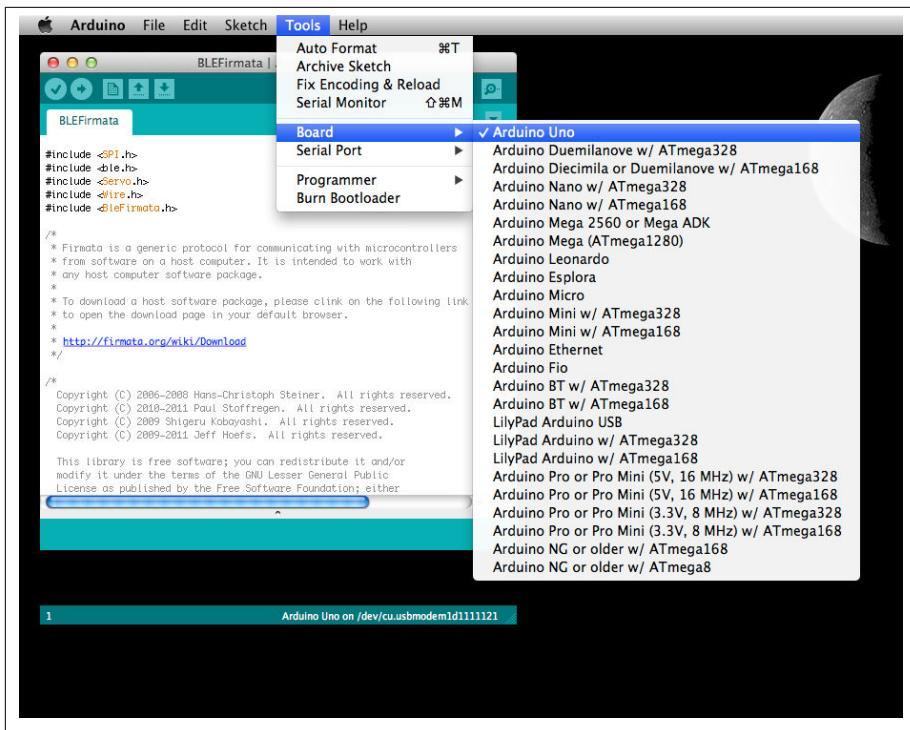

Figure 8-24. Make sure your Arduino model is selected
7. Make sure your exact Arduino model is selected in the *Tools→Board* menu, as shown in Figure 8-24.